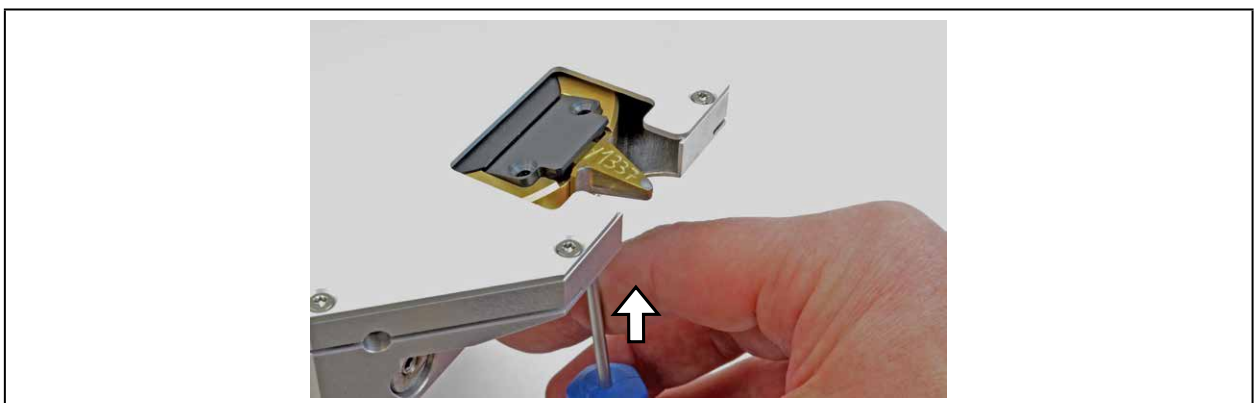

Fig. 14.3: Pushing out the measuring tip
5. The measuring tip and the retaining plate have to be pushed out of the rotational disc carefully through the housing bore. This must be effected from below and by means of a screwdriver. (please see Fig. 14.3).